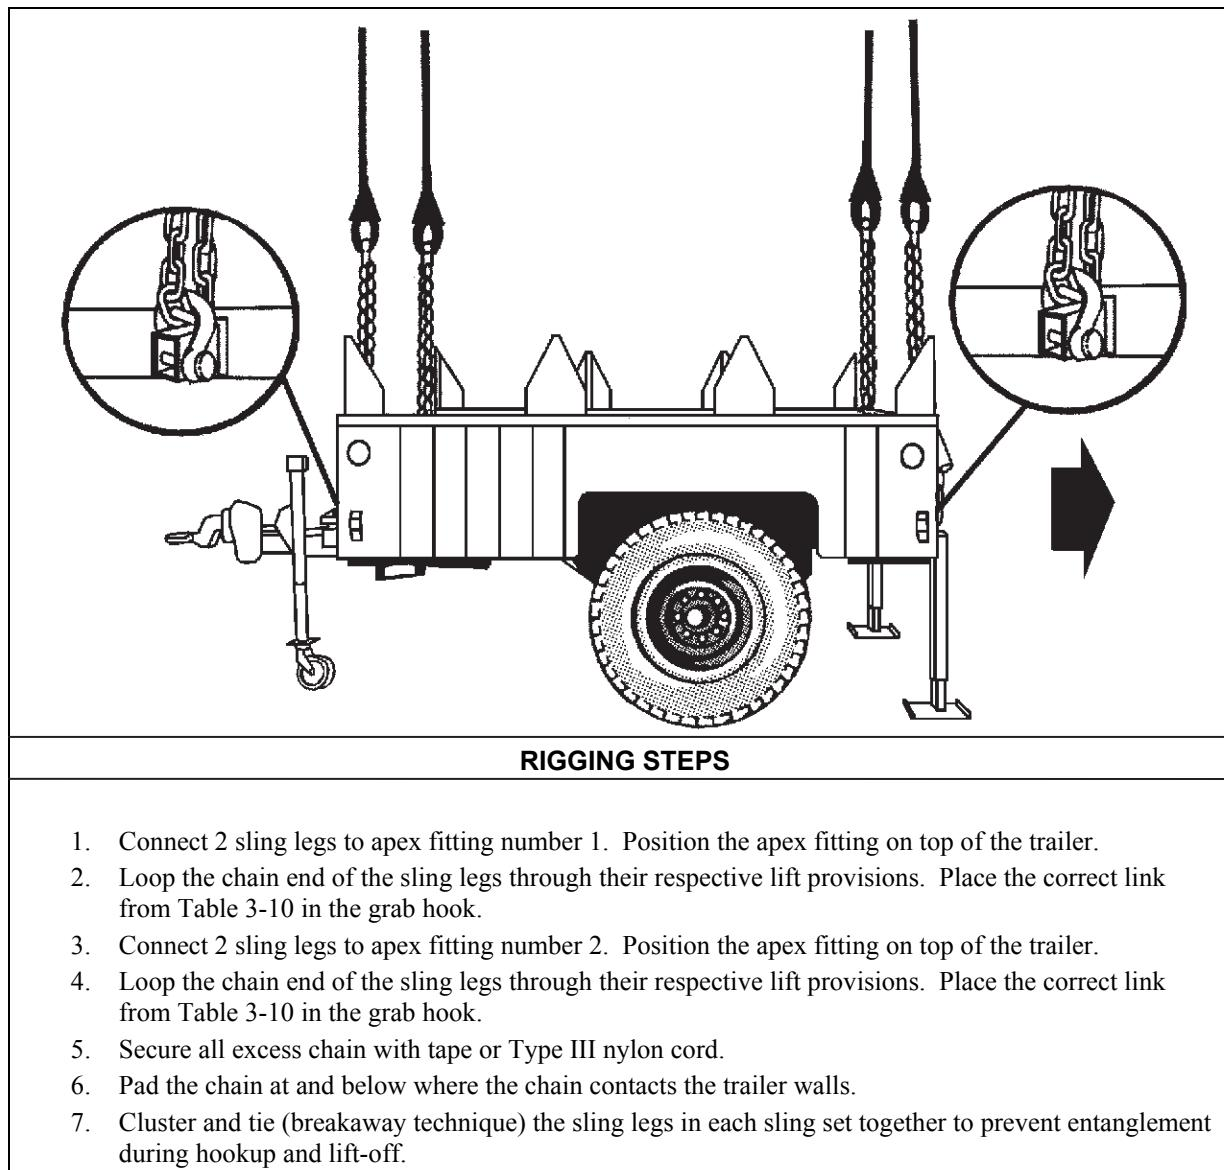

Figure 3-10. High Mobility Trailers
- **Rigging.** Rig the load according to the steps in Figure 3-10.